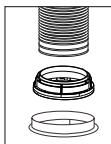
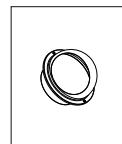

Fig.3
Fig.3.1
Connection to exhaust air pipe (Fig.3 & 3.1)
- When attaching the pipe, connect to the air outlet using a reducing connector (provided) (Fig.3).
- Secure both joints appropriately (Fig.3 & Fig.3.1).